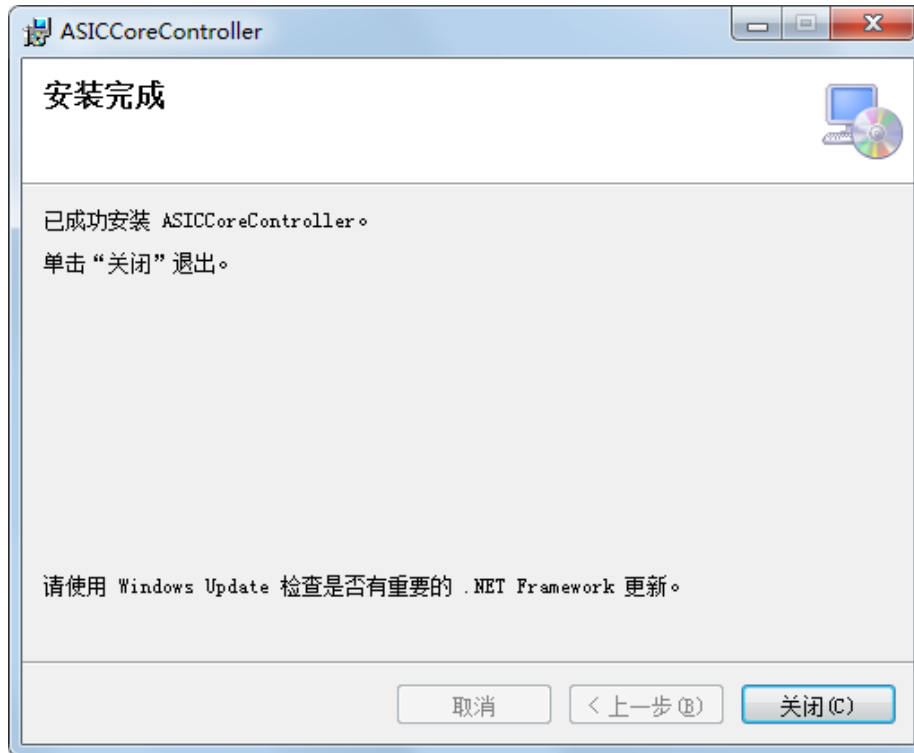
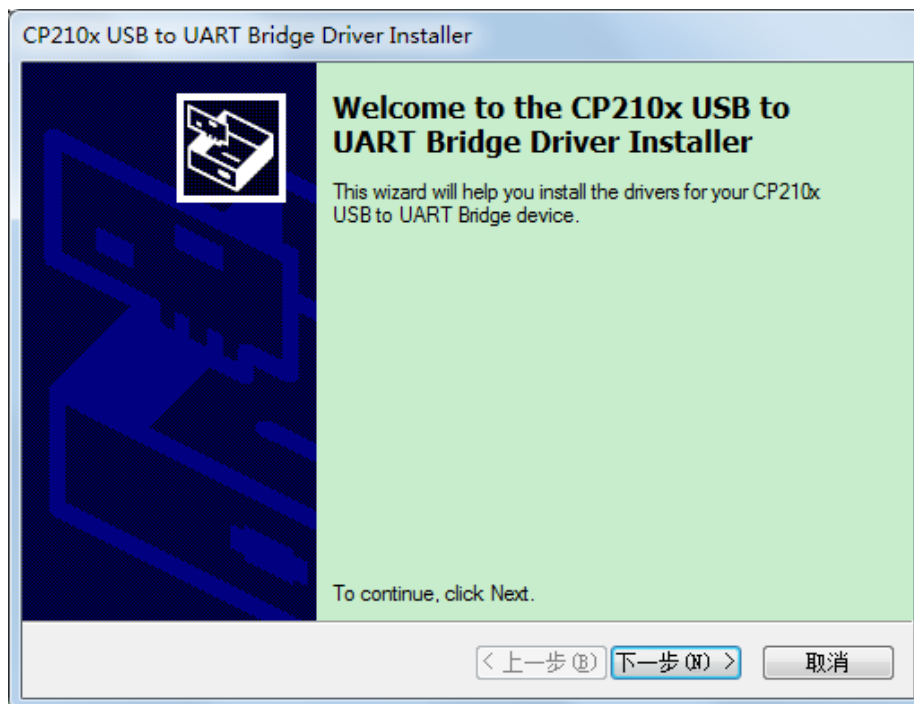
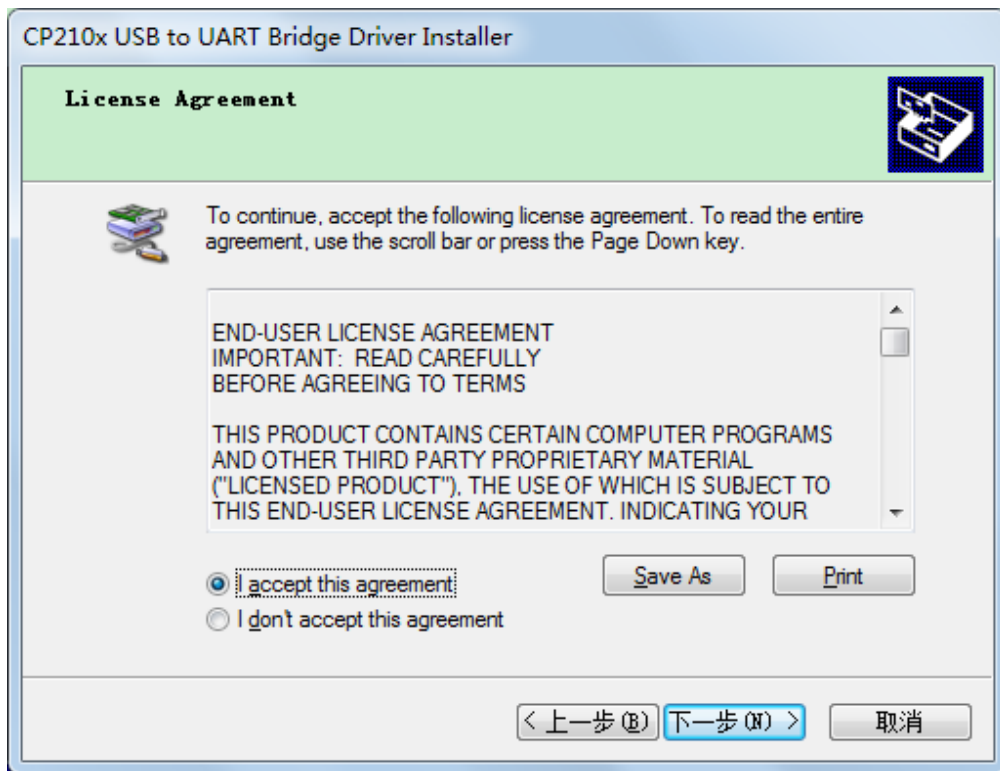

Fig. 4-5 Pop-up window for software installation complete
Fig. 4-6 Pop-up window for USB driver installation
Fig. 4-7 Agreement selection window
5. After the installation, two windows will pop up, one is the window for installation complete, and other one is window for USB driver, as shown in Fig. 4-5 and Fig. 4-6 respectively.
6. Click the button "Close" in Fig. 4-5 to complete the module software installation, and then click the button "Next" in Fig. 4-6 for USB driver installation, at which time, an agreement selection window as shown in Fig. 4-7 will pop up.